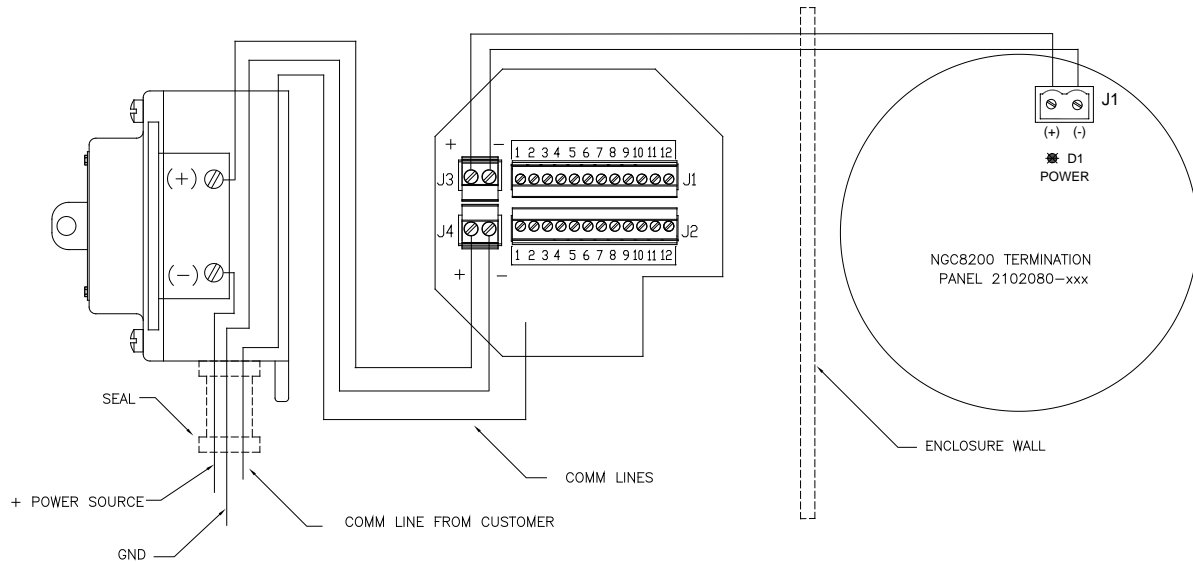

Figure 3-31 Power Wiring Diagram
- 25) Using the wiring instructions in Figure 3-31, install each wire into the correct terminal and replace the connector on the board.
- 28) Using the wiring instructions in Figure 3-31, install each wire into the correct terminal and replace the connector on the board.
- 37) Using the wiring instructions in Figure 3-31, install power (+) and power (-) wires into the correct terminal pins and replace the connector on the board.
- 41) Using the wiring instructions in Figure 3-31, wire power (+) to upper terminal screw and tighten.
- 43) Using the wiring instructions in Figure 3-31, wire the new power (+) length to the bottom terminal screw and tighten.